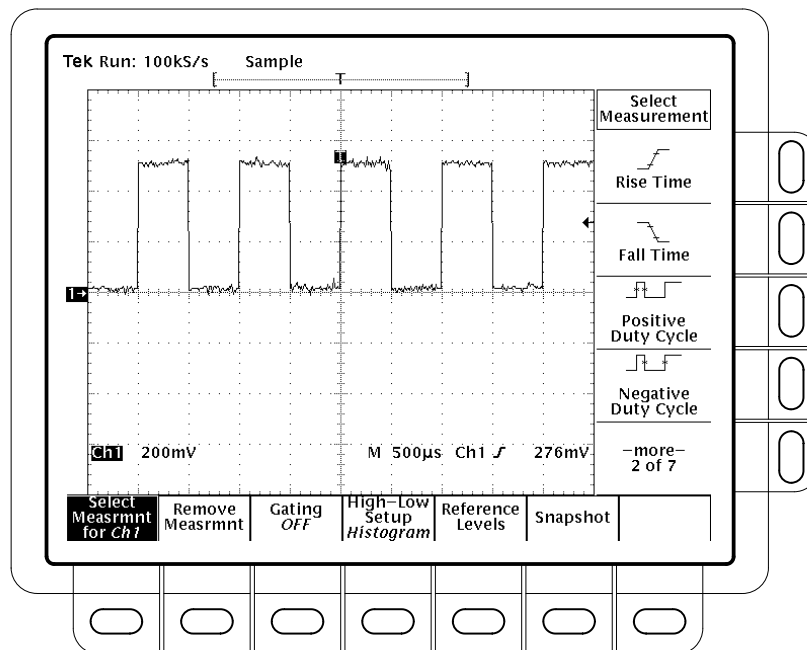

Figure 2–14: Measure Main Menu and Select Measurement Side Menu
4. Press **MEASURE** to display the Measure main menu (see Figure 2–14).
8. To move the measurement readouts outside the graticule area, press **CLEAR MENU** (see Figure 2–15).
The general purpose knob, the large knob, is now set to adjust the high reference level (Figure 2–16).